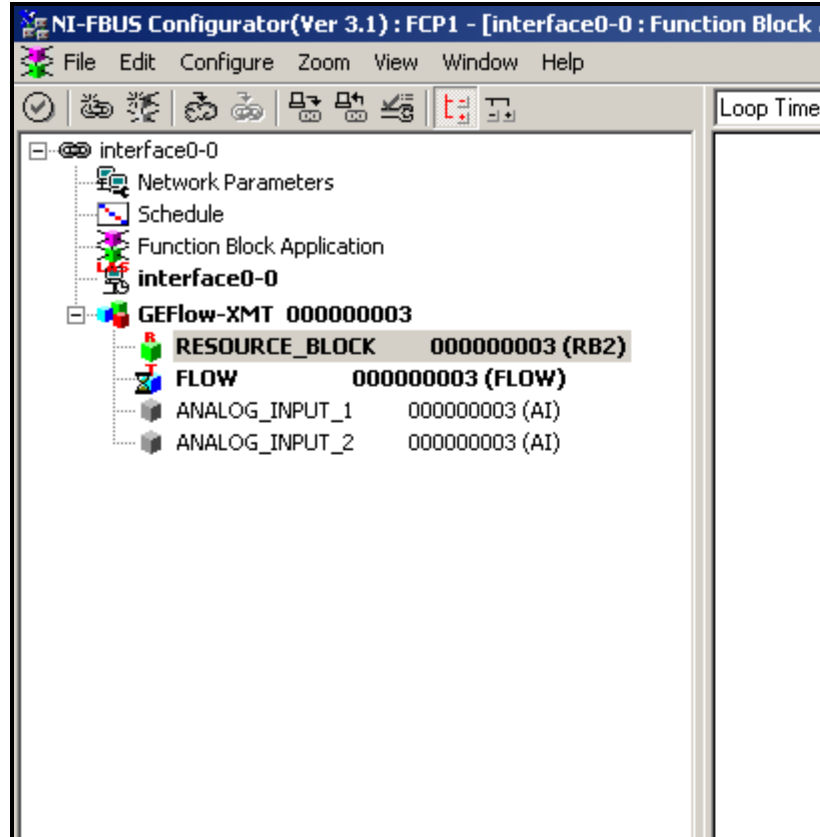

Figure 40: Configuration Utility Setup Example
Figure 40 below shows the Configuration Utility with a flowmeter on the network (Panametrics Flow-XMT).
1. Double click on the AI block for which you wish to set the units (ANALOG\_INPUT\_1 or ANALOG\_INPUT\_2 in the tree under GEFLOW-XMT; see Figure 40 on page 110).
1. Double click on the FLOW transducer block (in the tree under GEFLOW-XMT; see Figure 40 on page 110).